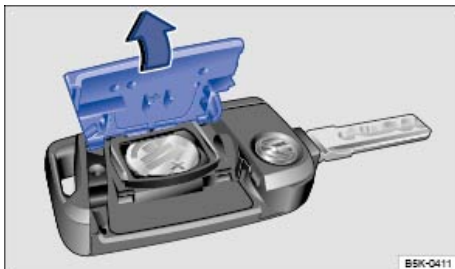

Fig. 21 Remote control vehicle key: Open battery compartment cover.
The battery is on the back of the remote control vehicle key under a cover ⇒ fig. 21.
- Position the cover as shown ⇒ fig. 21 and press it down (opposite direction of the arrow) until you hear it click into place.